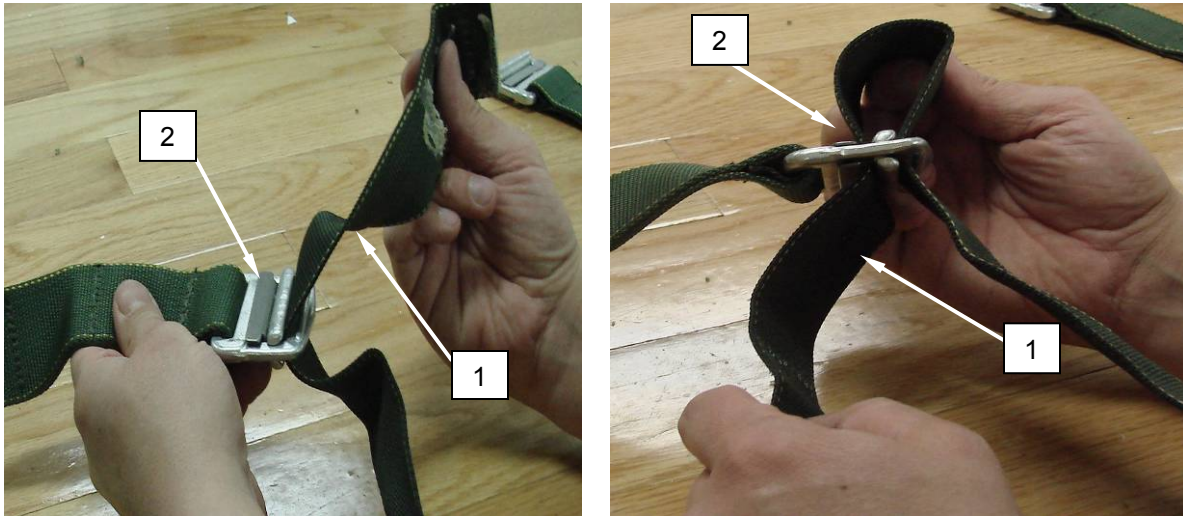

Figure 19. Route Diagonal Back Straps through Back Strap Adjuster.
10. Route the diagonal back straps (Figure 19, Item 1) through the back strap adjuster (Figure 19, Item 2). thread the diagonal back straps (Figure 19, Item 1) from top to bottom then back up through the back strap adjuster (Figure 19, Item 2).